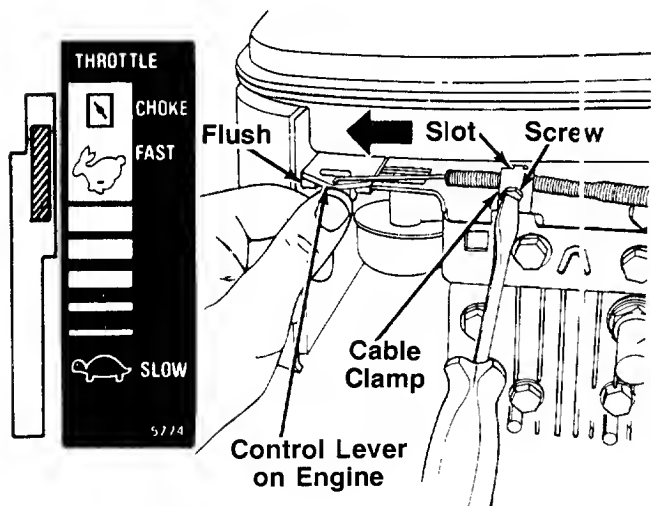

FIGURE 6B.—Models 266R and 269R
1. Push the throttle control lever on the handle all the way forward to **CHOKE**, then back it off **two "clicks"** (approximately 5/16"). See figure 6B.
2. The throttle control cable is attached to the upper handle. Route the throttle control cable under the lower handle, inside the handle mounting bracket and underneath the drive cover. Hook the "Z" end of the throttle control cable into the hole in the control lever on the engine. See figure 6B.
3. Using a 5/16" wrench or nutdriver, remove the screw on the cable clamp shown in figure 6B. Slip the control cable under the clamp. Replace the screw (cable should be above the screw), but do not tighten (cable must still move freely beneath the clamp). Make certain the tab on the cable clamp is seated into the slot on the engine.
4. Push the control lever on the engine as far toward the **outside** of the engine as it will go. The edge of the control lever should be flush with the bracket on the engine. See figure 6B. Hold the control lever in this position as you tighten the screw on the cable clamp to secure the throttle cable.